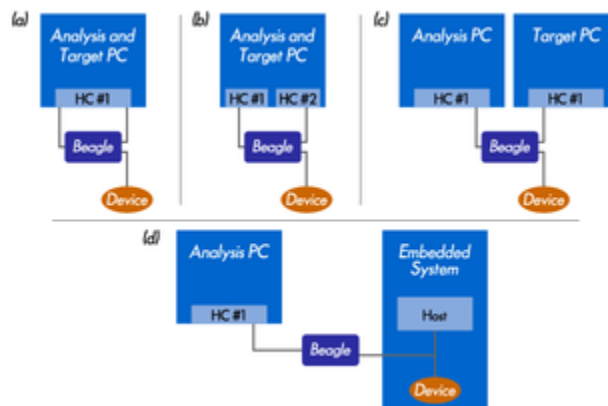

Figure 40 : *Beagle USB Protocol Analyzer Connections*
The Beagle USB analyzer's analysis port must be connected to the analysis computer through a USB cable. The Capture side of the Beagle analyzer must be placed on the USB to be monitored. Normally, this is accomplished by placing the Beagle analyzer in-line between the USB device and host being monitored. In other words, the bus to be monitored goes through the Beagle USB analyzer. To properly accomplish this connection, connect the target host to the USB-B receptacle on the Capture side of the Beagle USB analyzer, and connect the target device to the USB-A receptacle on the Capture side of the Beagle USB analyzer. See Section 2.2.1 for more details. This is the setup illustrated in panels a-c of Figure 40.
In some cases, the target bus is fully internal to an embedded system. If so, it is simply necessary to tap off the lines through the use of a parallel connector. One can plug in the tapped off cable into either the Target host or Target device port of the analyzer; both are equivalent. This is illustrated in Figure 40 d.
The connections of the Beagle USB analyzer are complicated somewhat by the fact that the Beagle analyzer is monitoring USB signals and then communicating the monitored data back through another USB port. Thus, the issue of the host broadcasting, as described in Section 1.1.2, comes into play. Because all Beagle analyzers use high-speed USB communication, this issue is only pertinent when using one of the high-speed capable protocol analyzers (such as the Beagle USB 480 Protocol Analyzer or the Beagle USB 5000 SuperSpeed Protocol Analyzers) to monitor a high-speed device. If the Beagle analyzer's analysis port is connected to the same host controller as a high-speed device that it is monitoring (Figure 40 a) then the Beagle analyzer will end up sniffing some of its own traffic. This is especially true if the Beagle analyzer is configured to stream back bus traffic to the PC in real time! This will be seen in the capture as many IN packets to the Beagle analyzer's device address with occasional downstream handshake packets.
- One method for dealing with this problem is install another USB host controller to the computer and connect one host controller to the analysis port of the Beagle analyzer and use the other host controller to communicate with the host and device under test (Figure 40 b). Downstream USB packets are only broadcast on USB links on the same host controller, so this technique is another way to ensure that the Beagle analyzer's traffic is not seen on the capture side of the analyzer. The disadvantage is that the PC must spend processing time for communicating both with the target device as well as the Beagle analyzer.
- The preferred method is to connect separate computers to the analysis port and to the target host port of the Beagle analyzer (Figure 40 c). This puts the analysis end of the Beagle analyzer on a different bus, ensuring that its traffic is not seen on the capture side of the analyzer. Furthermore, the analysis PC can have full resources to process the incoming data, and the test PC will not be encumbered by the analysis software.